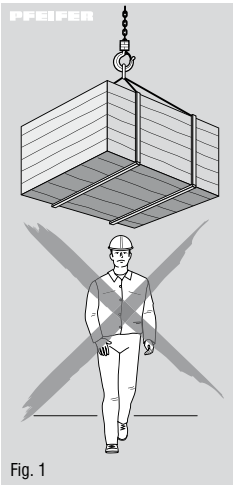
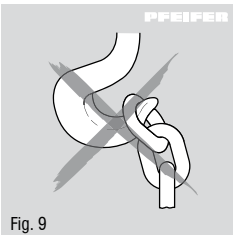

Fig. 1
Fig. 9
Put the control lever into the lift (up) direction, and allow it to engage. Make pumping movements with the hand lever. If the hoist is kept under load but is not being worked with, the control lever must be put into the lift (up) position. Always suspend the load in the centre of the hook. Do not load the hook tips (Fig. 9).
- Do not load the hook tips (Fig. 9).
- Use in areas subject to explosive hazard (EX) is forbidden!
- Loads may not be lifted away over persons (fig.1).